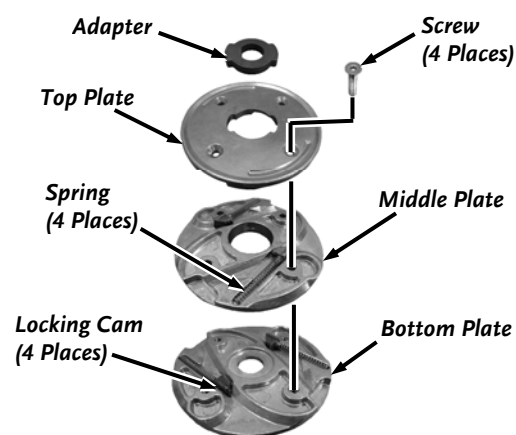

Figure 33
16. Remove the four Screws using a 3mm Allen Wrench (**Figure 33**).